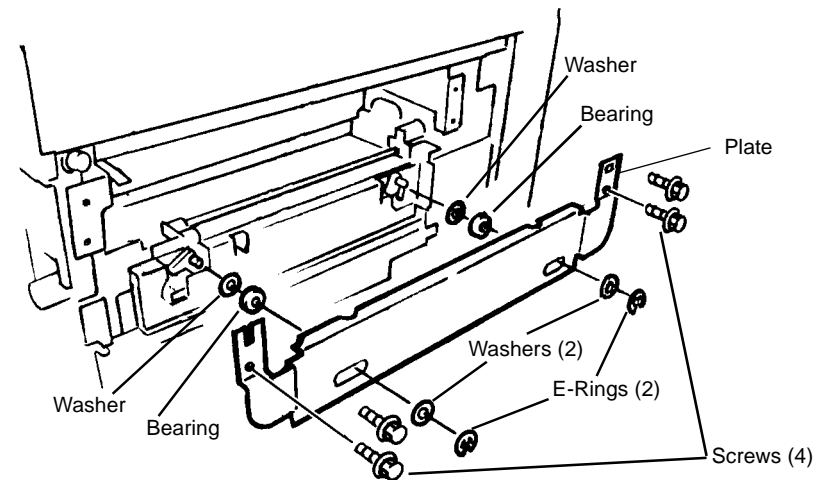

Figure 1 Removing Plate
10. Remove Plate (Figure 1).
- a. Remove e-rings (2) and washers (2).
- b. Remove screws (4) and remove Plate.
- c. Remove bearings (2) and washers (2).